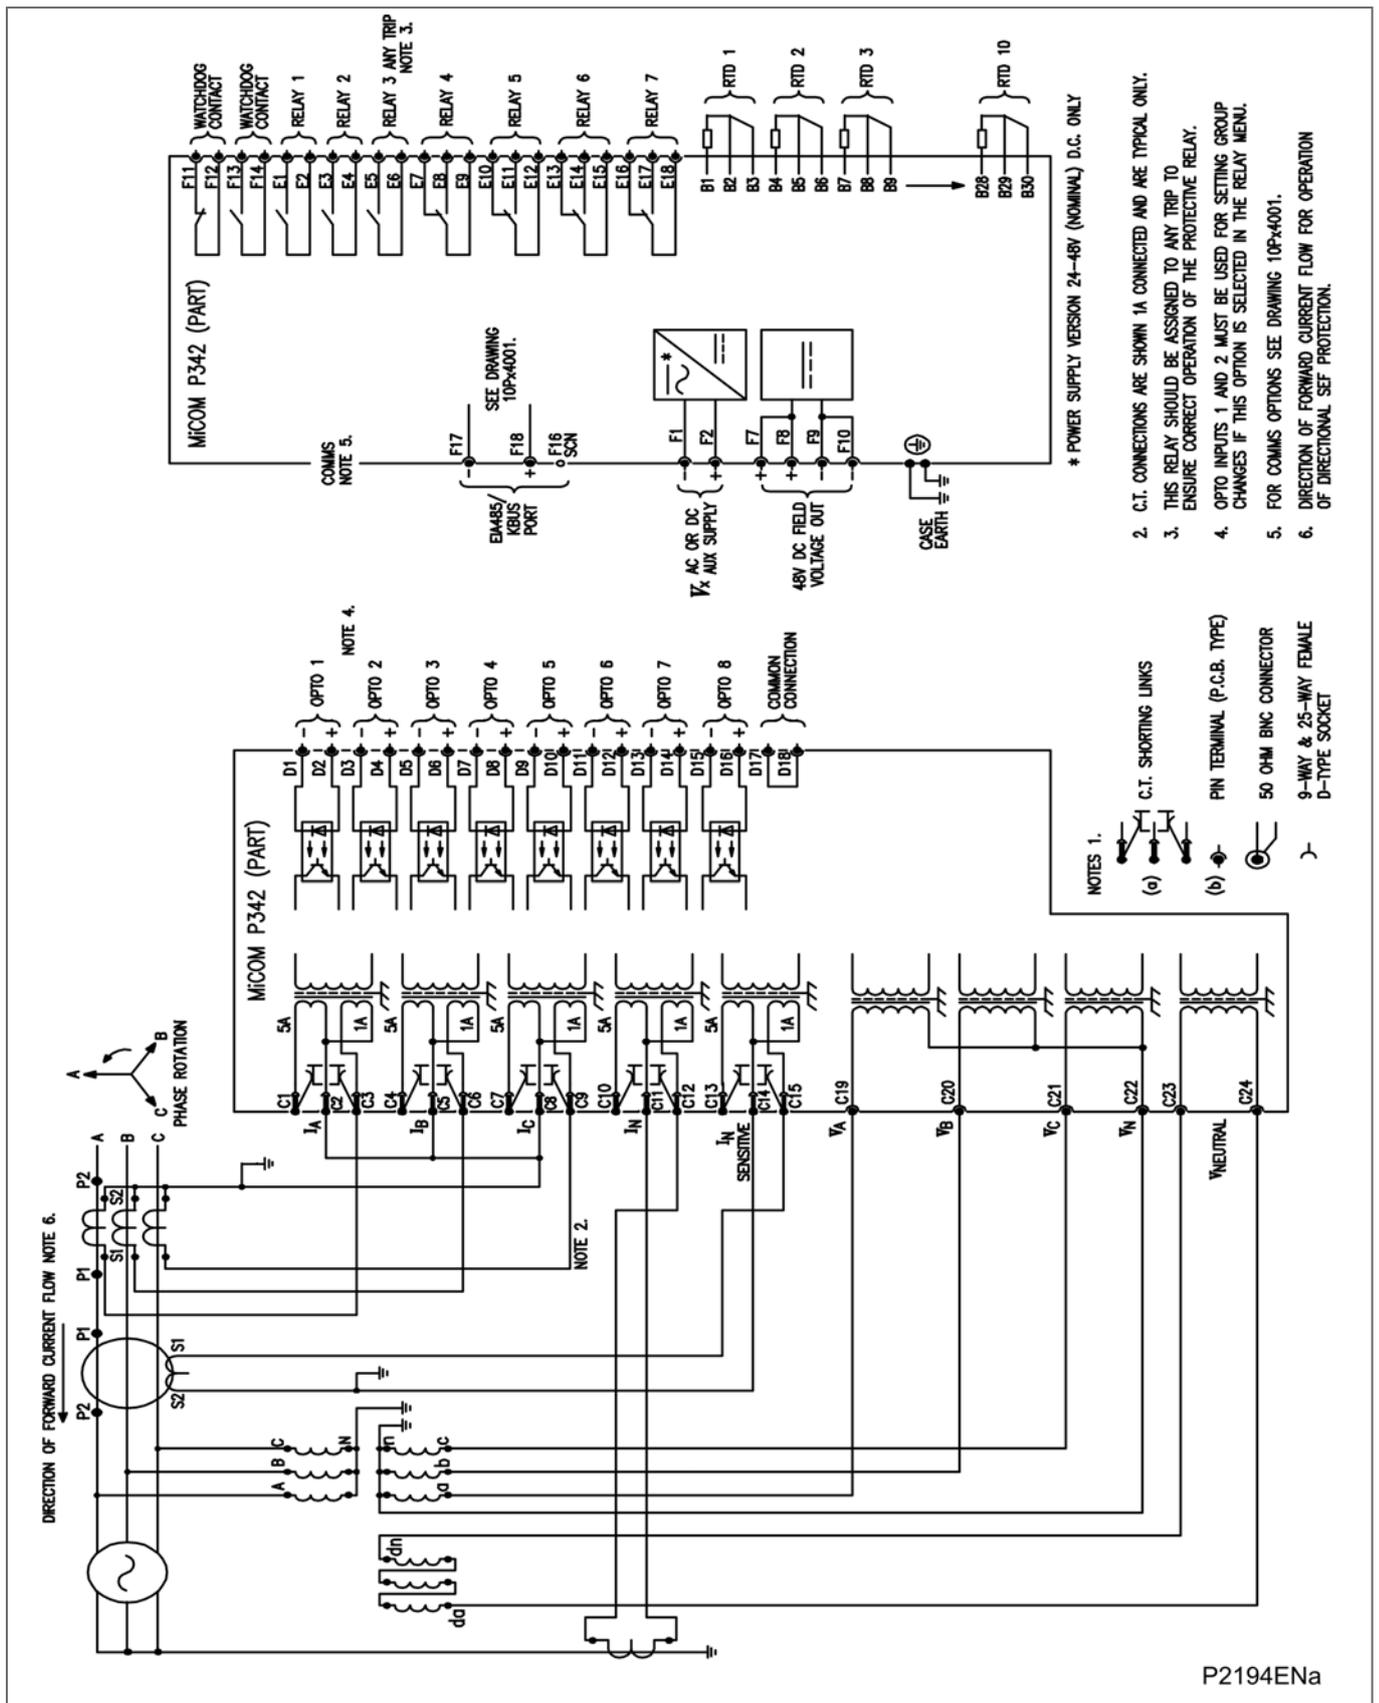

Figure 42 - P342 (40TE) for small generator (8 I/P & 7 O/P & RTDs)
- Figure 42 - P342 (40TE) for small generator (8 I/P & 7 O/P & RTDs)